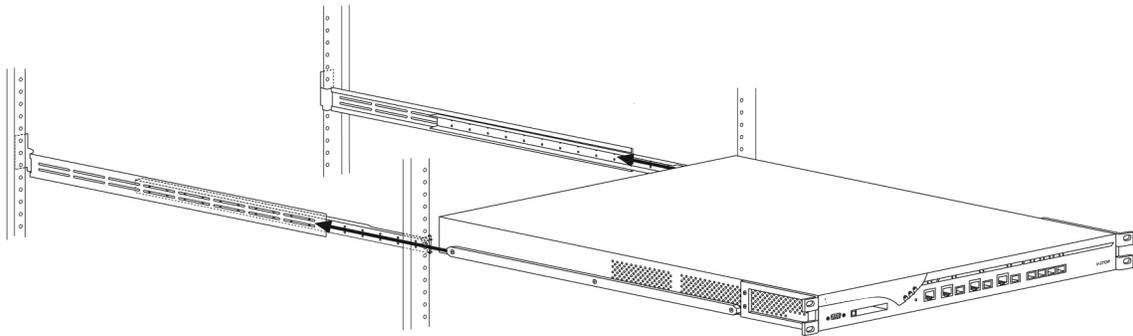

Figure 6. Inserting i series 400i into Rack
1. Slide the i series 400i into the rack (Figure 6).